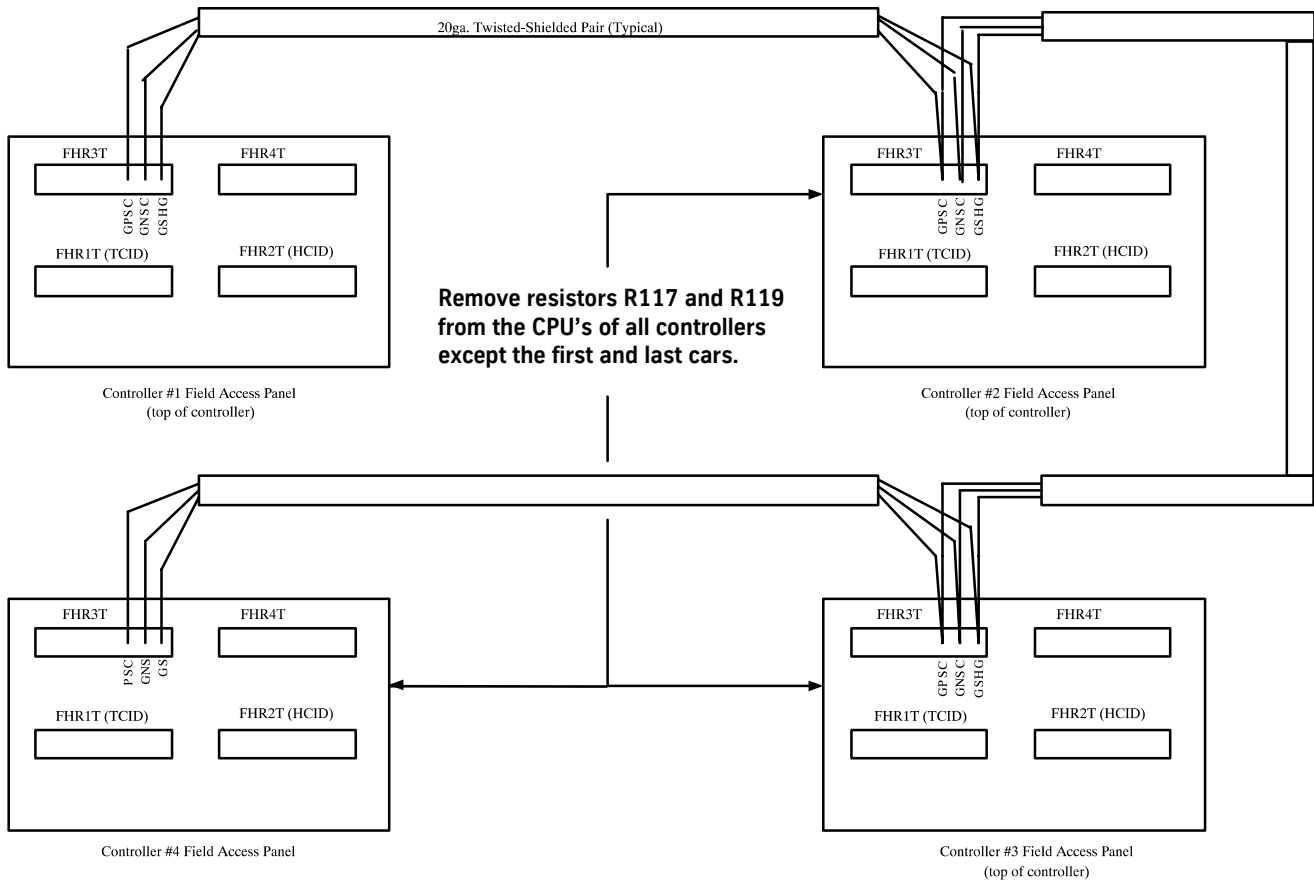
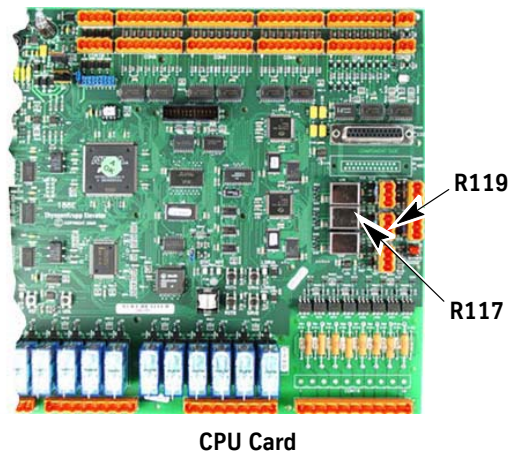

Figure 28 - ICON Group Communications Car-to-Car Cross Connections
Figure 29 - R117 and R119 Resistor Locations
1. Verify cross connections between all cars (not required on single car jobs). See the job wiring diagrams and Figure 28 on page 47.
2. Verify that resistors R117 and R119 have been removed from the CPU card of the center cars of the group communications wiring run (resistors are to remain on the CPU's of the cars at the end of the wire run only). See Figure 28 and Figure 29 on page 47.